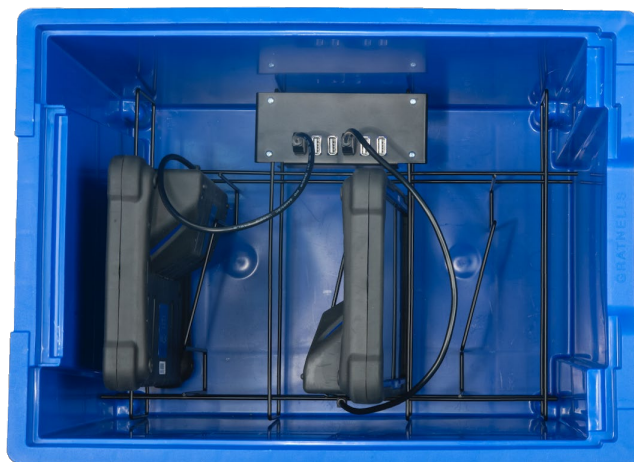

Figure 1. Insert SPARK LXi2 dataloggers in the wire rack in alternating directions.
4. Repeat steps 2 and 3 for up to five additional SPARK LXi2 dataloggers. Note that the dataloggers are inserted in alternating directions into the wire rack (Figure 1).